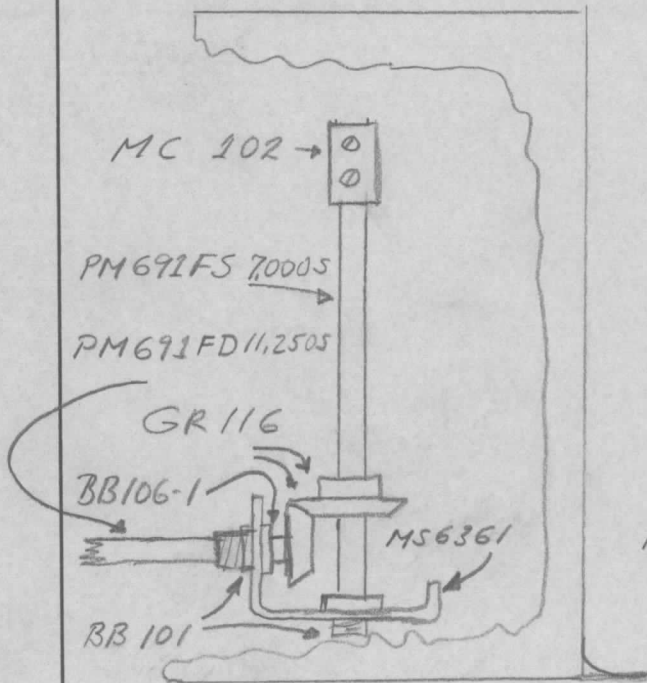

FIGURE 4
12. Remove the old control panel from the transmitter and relocate all switches (except the TUNE & LOAD toggle switches) and lamps on to the new front panel (item (10)).
14. Mount the two bearing plates (item 22) on inner surface of the main control panel shield using item 23 hardware.
15. Reinstall the main control panel shield and fasten one half of the shaft coupling (item 14) on the ends of the control shafts.
16. Attach the load capacitor shaft (item 28) on to the end of the load capacitor using the rigid coupling (item 13) and (item 32) set screws.
17. Assemble the bearing plate gears and long shaft as shown in figure 4.